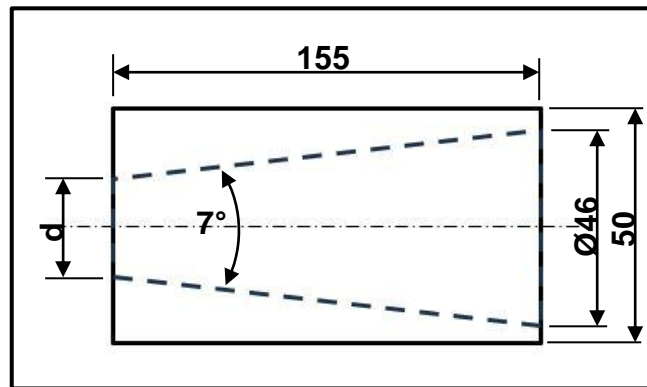

FIGURE 5.2
- 5.2 FIGURE 5.2 below shows an internal taper in a bush with an included angle of 7° . The taper should be machined on a centre lathe using the compound slide method. Answer the questions that follow.